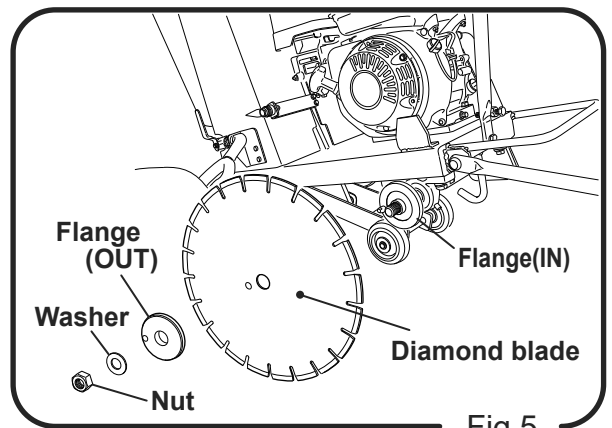

Fig.5
- b. Place flange (IN), diamond blade and flange (OUT) around the blade shaft in such order, and install washer before tightening sufficiently with nut (left-hand thread). (Fig.5, 6)